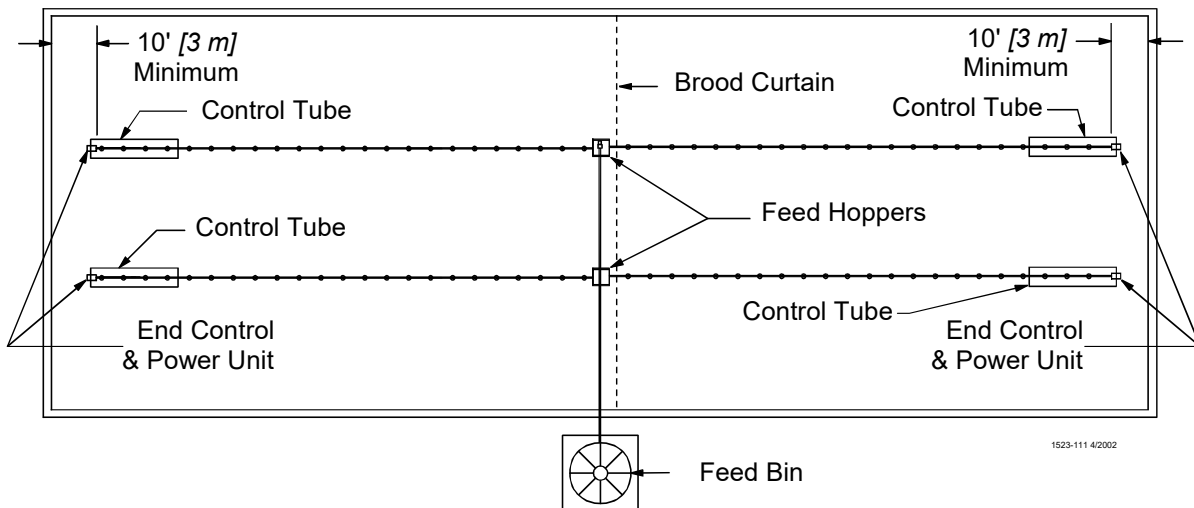

Figure 2. Component location diagram for systems over 400 feet [122 m]. (Top View).
- B. Systems with line lengths over 400' [122 m] should be split in the center, as shown in **Figure 2**. This will reduce auger running time and eliminate the need for Mid-Line Controls for partial house brooding.